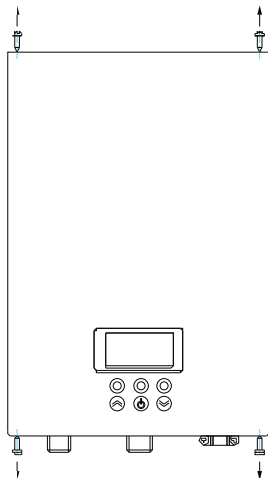
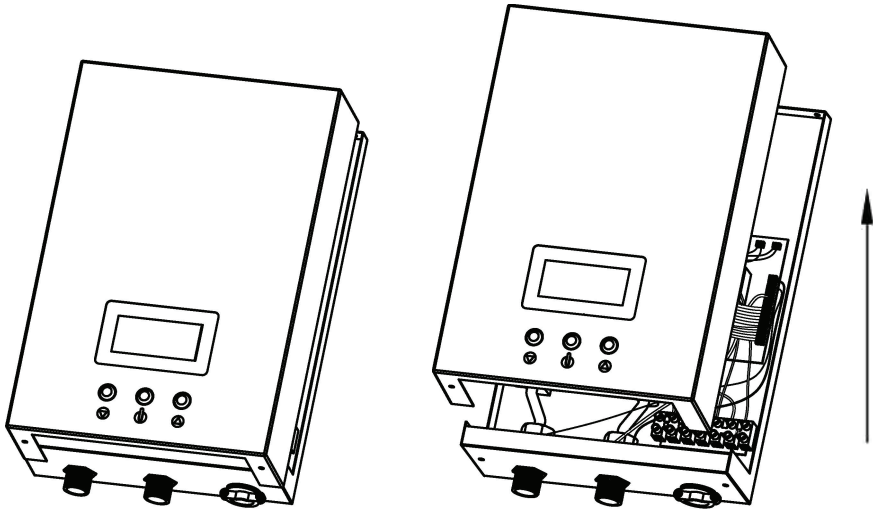

Fig. 11
Fig.12
Remove (4) screws and washers (Fig 11) from the unit to free the front cover. Carefully lift the front cover off the unit a few inches. Disengage the ribbon cable connecting the front cover LCD panel to the main control board or the unit (Fig 12). Remove the cover completely.